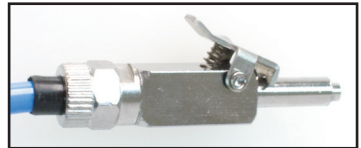

Fig. 2
3. Completely insert water supply tube into water supply line connection on the main unit (Fig. 1) until it snaps into place and then connect the quick disconnect (Fig. 2) to the water source. Confirm there are no leaks.